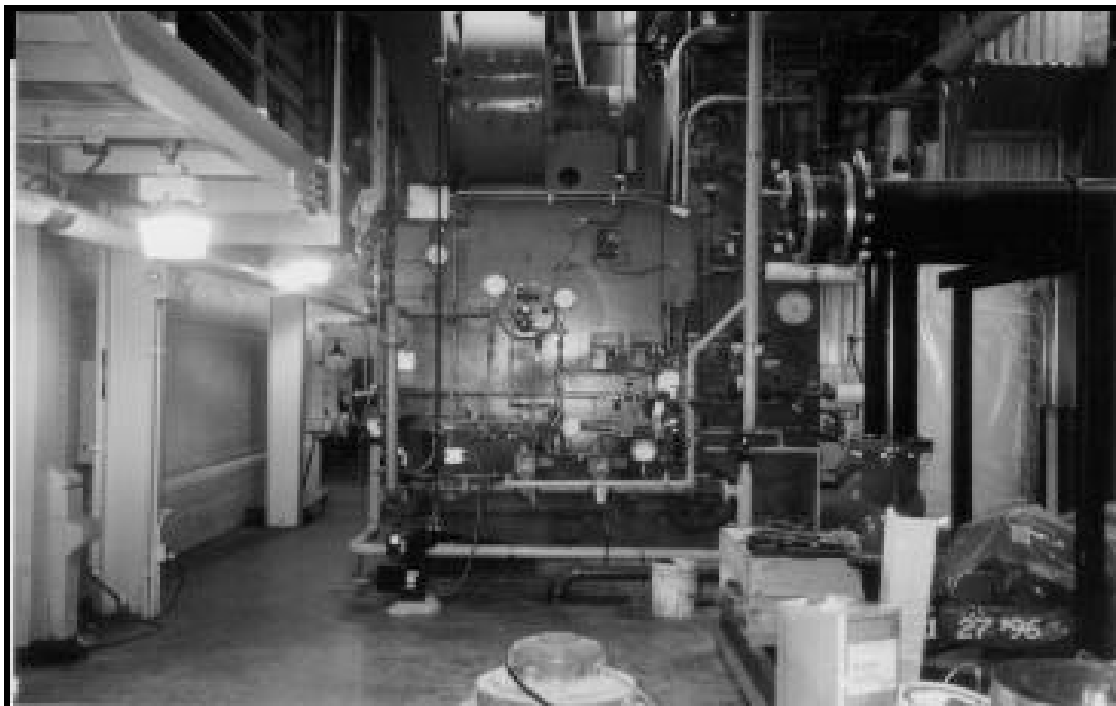

Figure 2: Boiler 109 showing burner and forced draft fan at the top of the boiler (typical for Boiler 110 and Boiler 107)
- Figure 2: Boiler B-106 showing burner and control panel on right side of boiler front